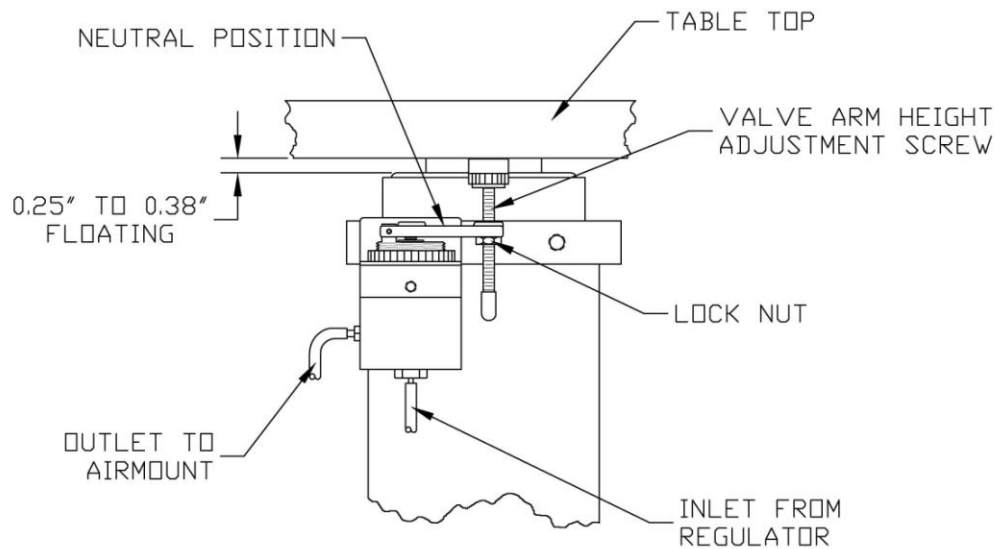

Fig. 11 Valve Adjustment Illustration.
7. When the Tabletop is completely “floating” adjust each Valve Adjustment Screw so that the Tabletop is floating approximately $\frac{1}{4}$ of an inch (as shown in Fig. 11). The Tabletop should be level at this point since leveling was done prior to this by raising and lowering of the Mechanical leveling Feet.